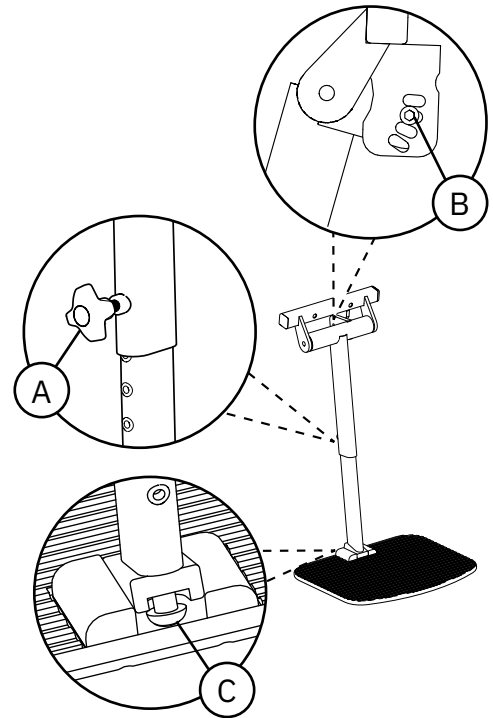

Figure 5.25. Centre-mounted leg support.
The centre-mounted leg support is adjustable in height (A), angle of leg support (B) and angle of foot plate(C), see Figure 5.25.